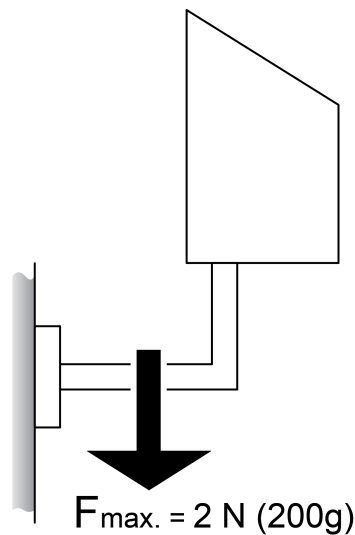

Figure 4: Maximum load on the angular arm
- Route the cables for the power supply and bus connection through one of the two cable entries (11) and into the terminal box (3).
- Connect supply voltage to connecting terminal (9).
- Connect KNX bus line to connecting terminal (10).
- Connect connecting plug of the sensor head (1) to sensor terminal (8) in terminal box (3).
- ⓘ The angular arm (2) may break when the terminal box is closed. The angular arm must not be used as a lever (figure 4).